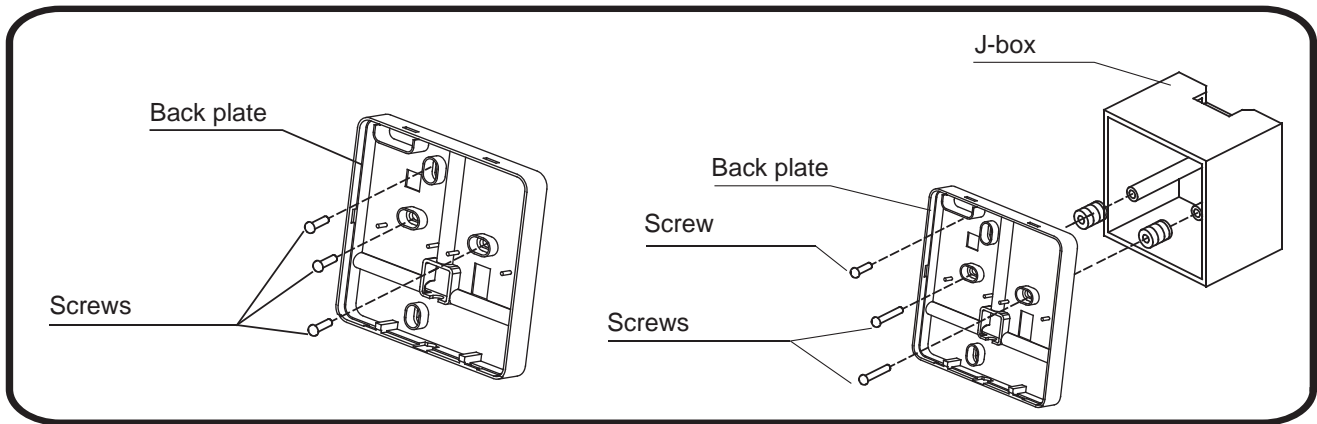

Figure 3. Mount wall plate
3. Mount the wall plate as appropriate for your application. See figure 3.
4. Attach the wall plate using the provided screws. See figure 3.